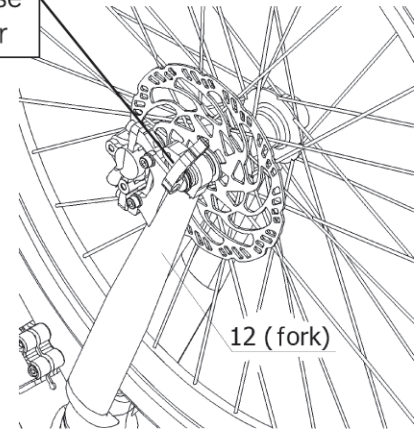

Figure 45-2.
e. Lock the quick release lever, as shown in Figure 45-2.